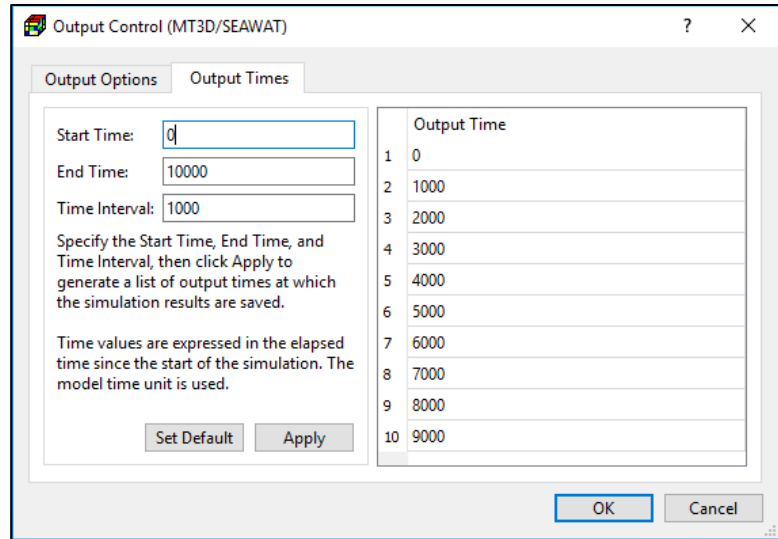

Figure 106. The Output Times tab of the Output Control (MT3D/SEAWAT) dialog box
2. Output Times Tab (Figure 106)